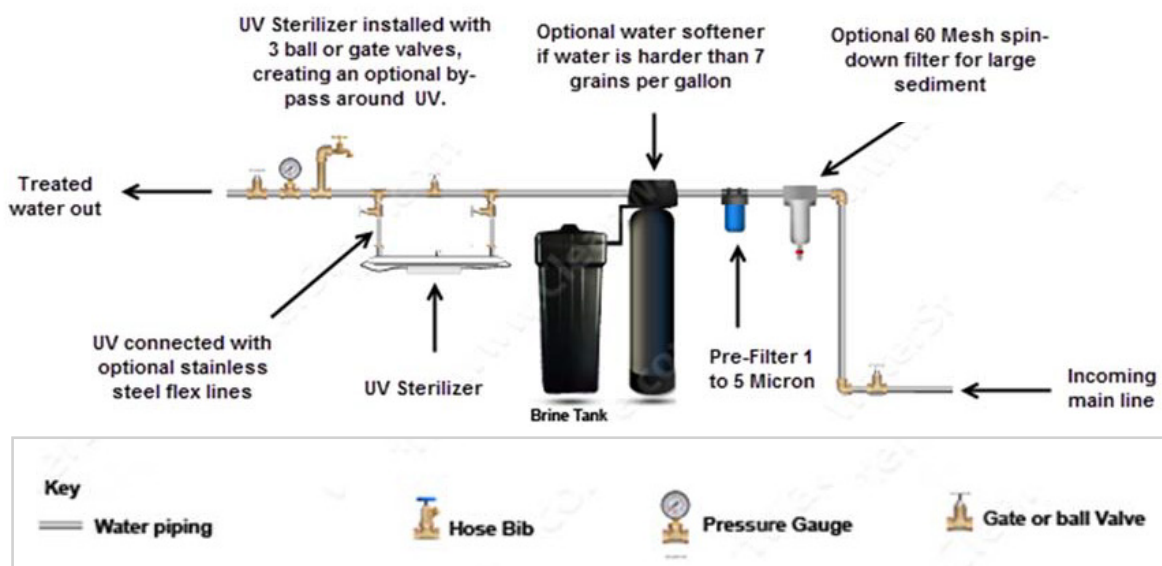

Fig. 1
1. See typical installation on page 4, **Figure 1**
5. Install a series of 3 ball valves to create a by-pass around the UV as shown in **Figure 1** if desired.